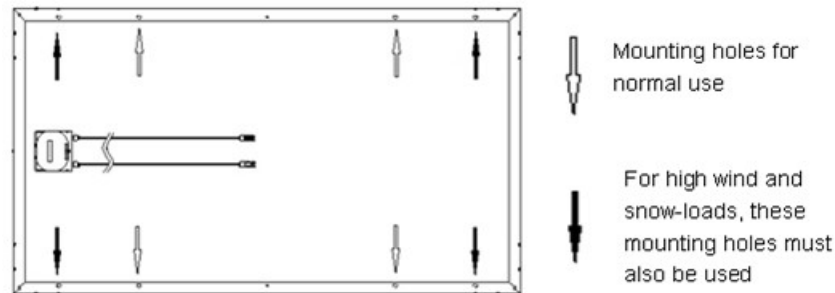

FIG 5 Mounting holes
- ✚ The frame of each module has 4 mounting holes used to secure the module to the support structure. As shown in Figure 5, four mounting holes are used. In order to sustain a higher load condition, or when installation larger, 72 cell modules, eight mounting holes are needed or in the condition of sustaining higher load.